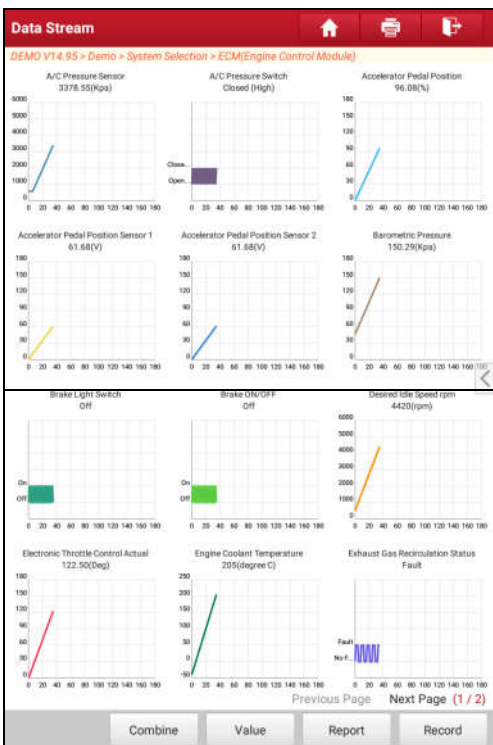

Fig. 5-23
- ✓ Graph – displays the parameters in waveform graphs. Refer to Fig. 5-23.